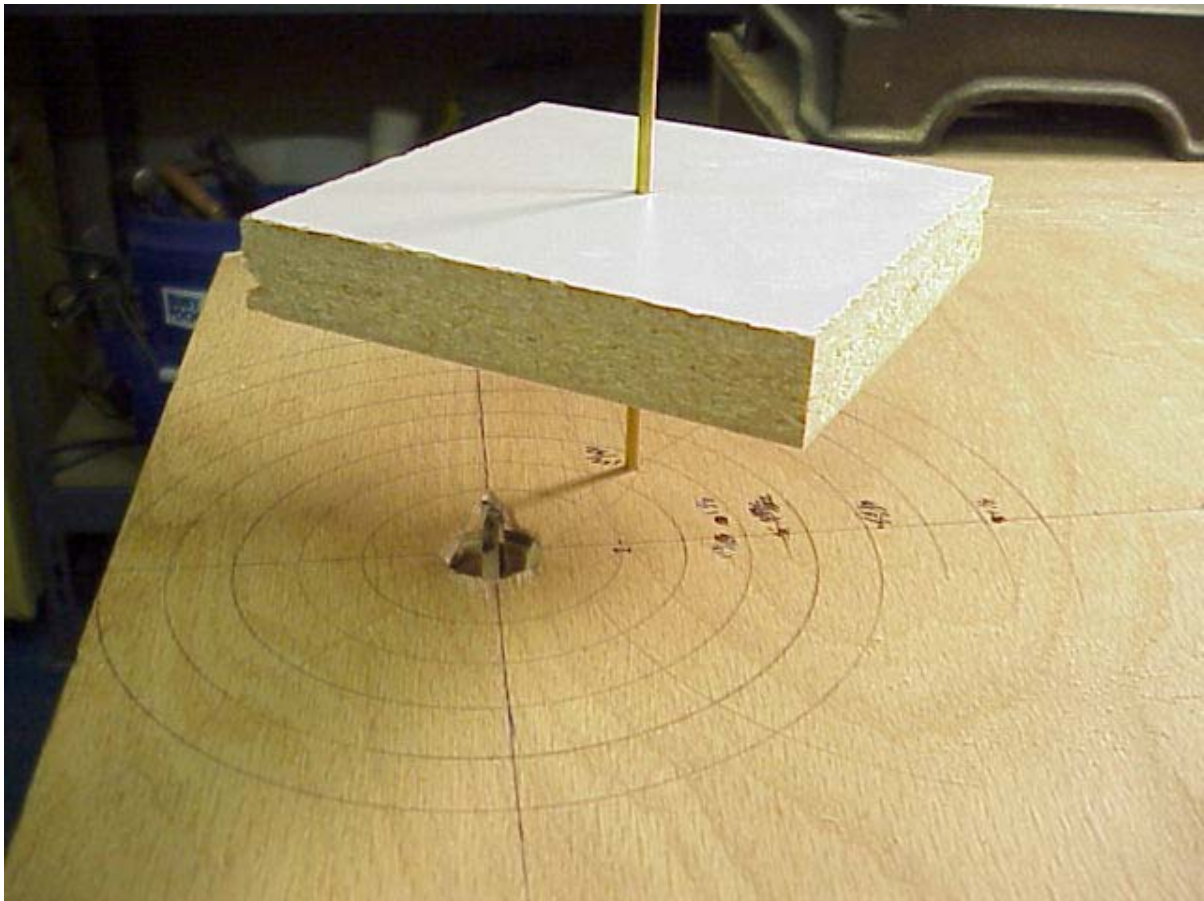

Figure 3-22: Using the routing table
- 4) Using 1/8 Diameter **SOLID** steel or brass rod, insert the rod into the hole in the part and then into the appropriate hole in the routing table (see Figure 3-22).